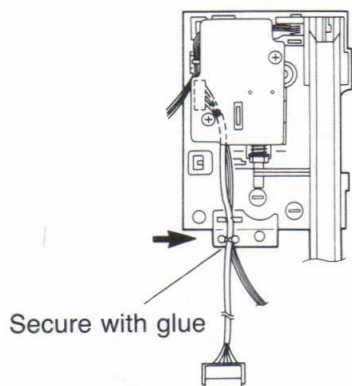

Fig. 15
5. Install the Sensor PWB Ass'y (39) and secure it with the two Screws (200). Place the lead wire through the guide pin and secure it with glue. (Figure 15)